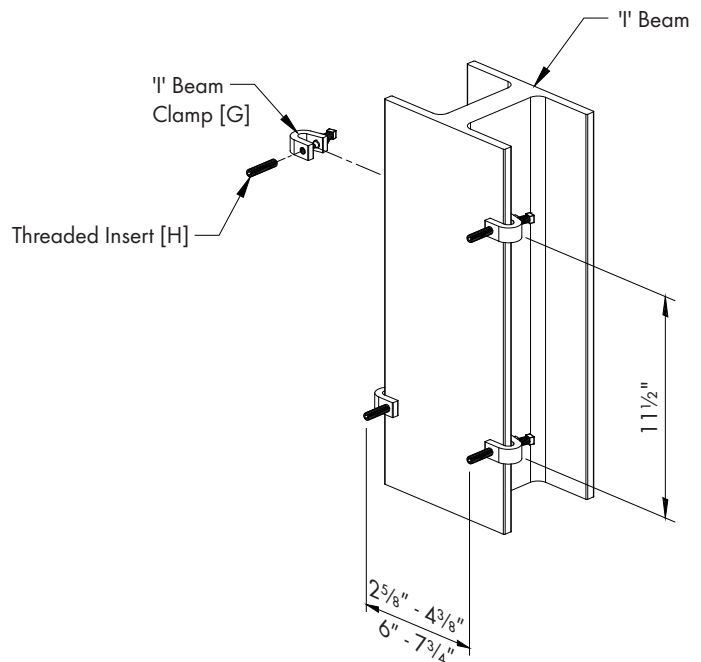

Figure 4
Thread Threaded Insert [H] into 'I' Beam Clamp [G] so it is flush on the inside of clamp. Attach (4) 'I' Beam Clamps [G] to beam by tightening square headed bolt. 'I' Beam Clamps [G] should be spaced 1 1/2" on center-to-center vertically. *See Figure 4.*